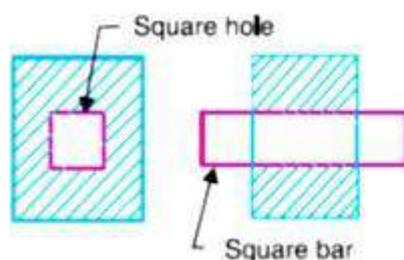
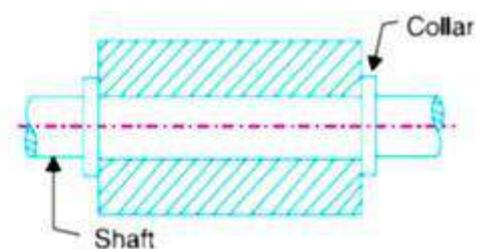

Fig. 1.1
fig. 1.2
- The motion of a square bar in a square hole, as shown in Fig. 1.1, and the motion of a shaft with collars at each end in a circular hole, as shown in Fig. 1.2, are also examples of completely constrained motion.